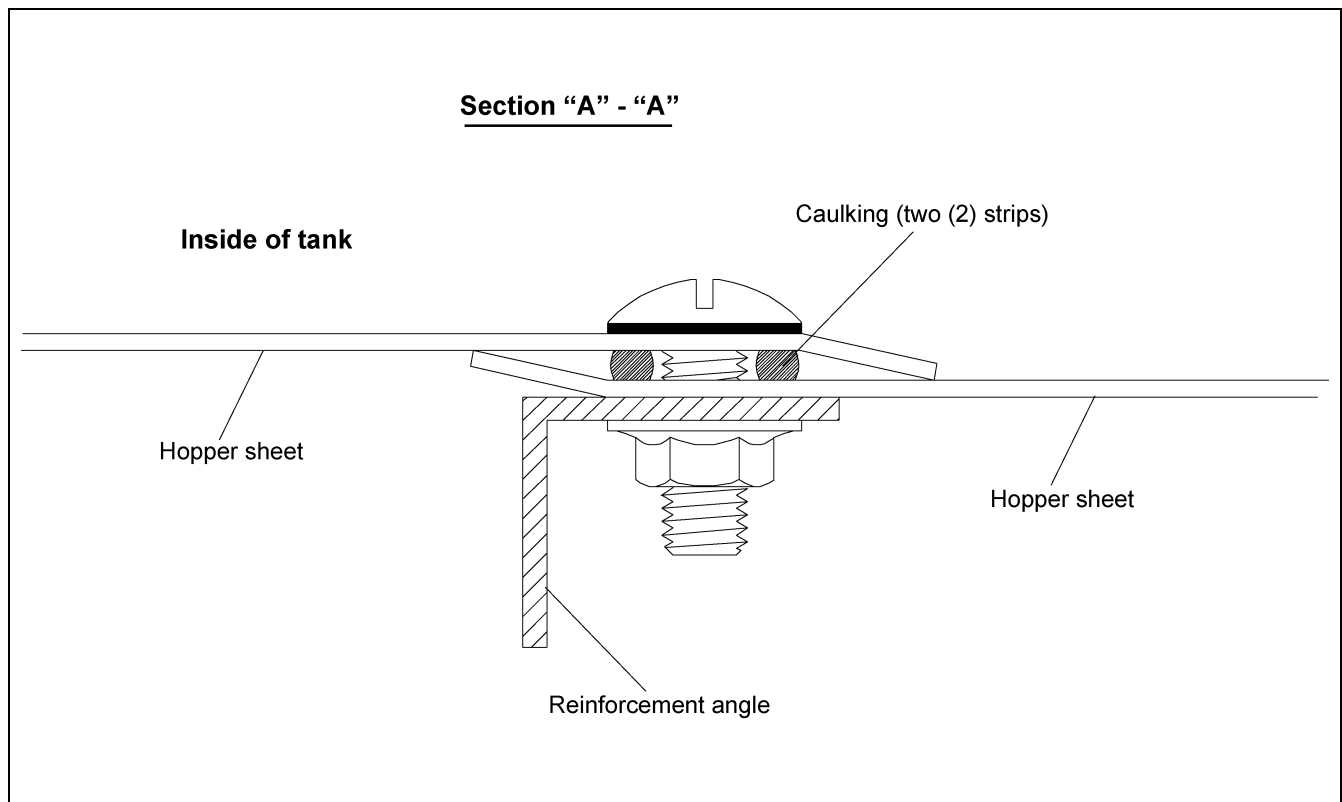
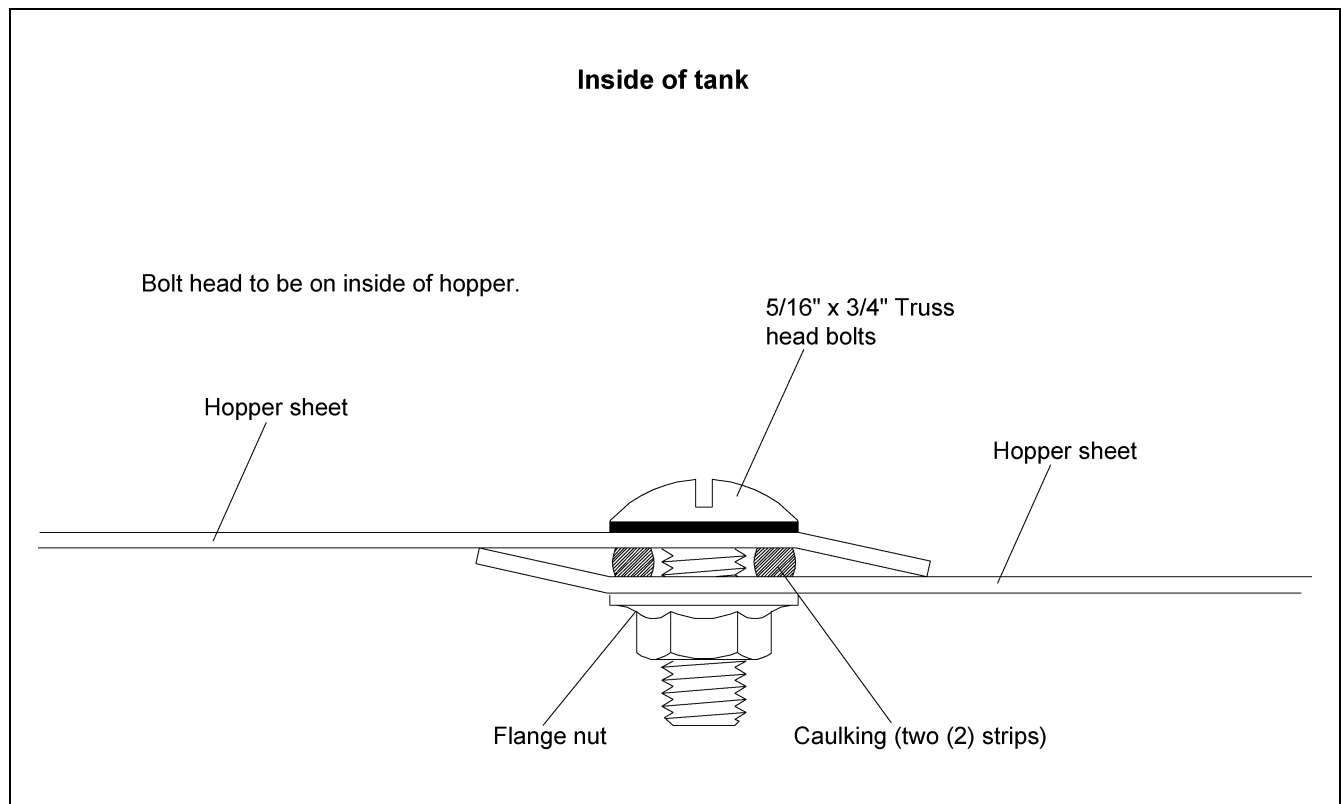

Figure 8F Hopper Overlap and Bolt Detail w/ Reinforcement Angle
Figure 8G Hopper Overlap and Bolt Detail for Tanks w/out Reinforcement Angle
When starting to attach hopper sheets to sidewall, the first hopper sheet seam should be positioned halfway between leg positions. Lap the hopper sheets as shown in Figure 8F and Figure 8G on Page 42. Use two (2) strips of caulking on all seams at sidewall to hopper and hopper sheet to hopper sheet. Be sure to place the head of the truss bolt on the **inside** of hopper. Leave one (1) hopper sheet out to allow room to install hopper collar. Be sure to use two (2) strips of caulking between hopper collar and hopper sheets, then put last hopper sheet in place.